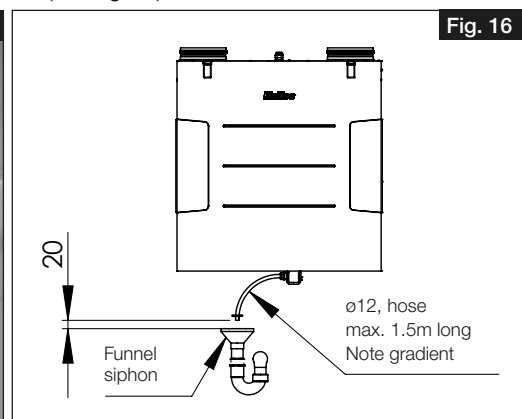

Fig. 16
- > The condensate hose must end 20 mm above the open drain or possible water level (see Fig. 16).
- > The condensate hose from the ball siphon must have a downward gradient, openly dripping into a funnel siphon and must not be discharged into a closed system (see Fig. 16).